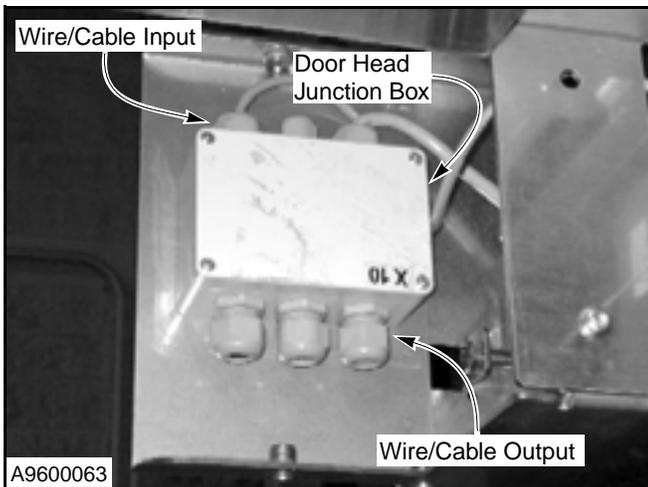

Figure 79
1. Route the reversing edge and photo eye control cable, leading from the door head junction box, to the control panel. (See Figure 79.)